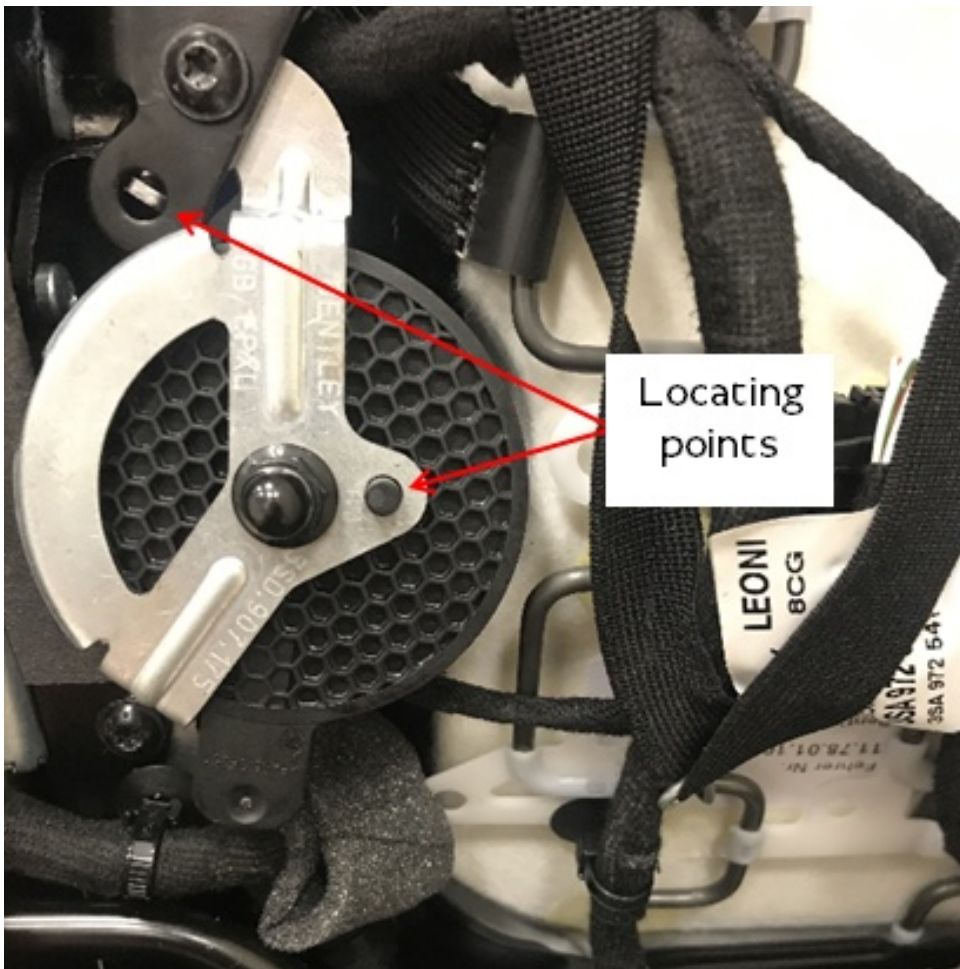

Figure 6
4. Check that both locating pins are seated correctly in the slots (Figure 6).